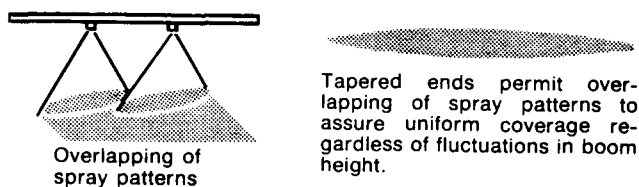

Figure 7-15. Front edge view of flat fan nozzle.
**Fan or flat pattern nozzles.** The spray droplets emerge in a fan shape on leaving the nozzle orifice. Viewed from the side, the fan is flat (Figure 7-15). The orifice shape is elliptical. The spray pattern "tapers" at the edges; i.e., less herbicide is applied at